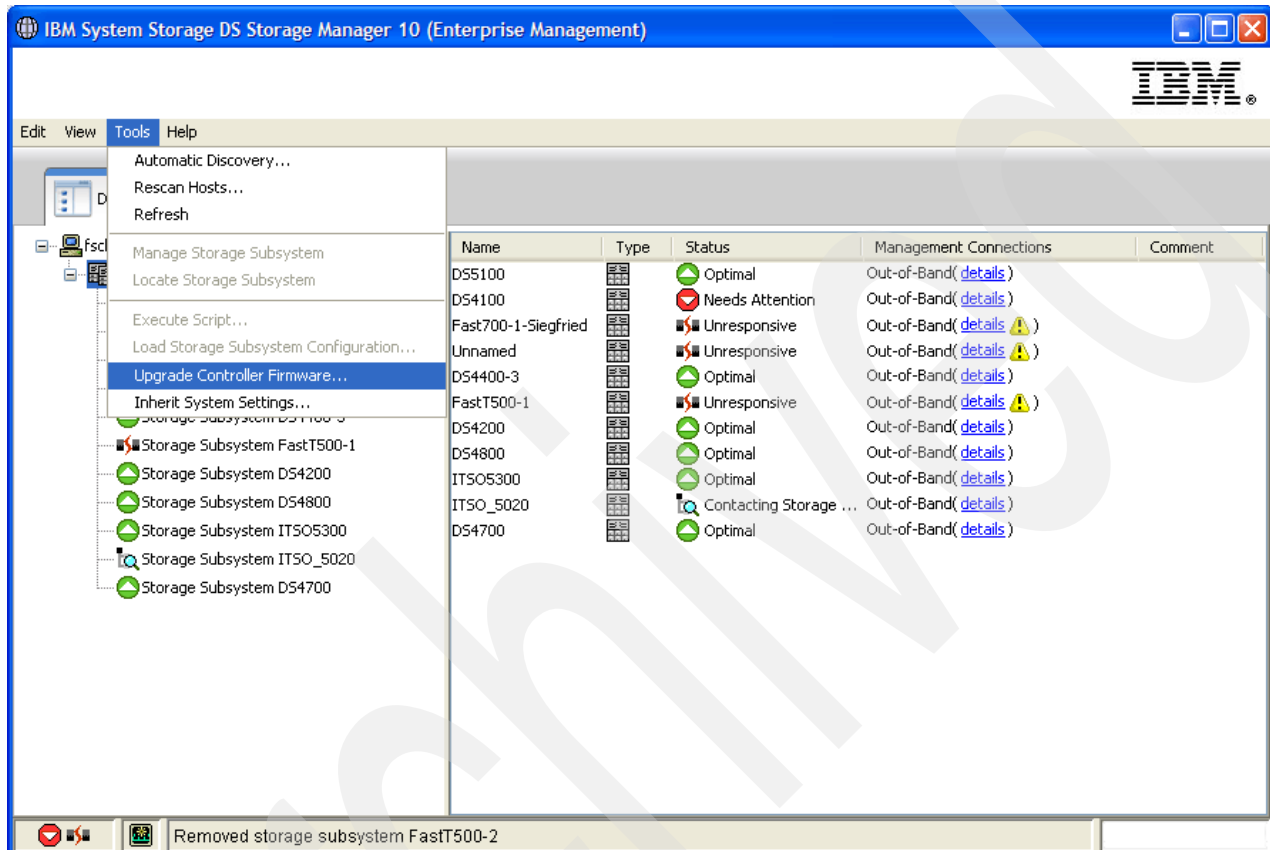
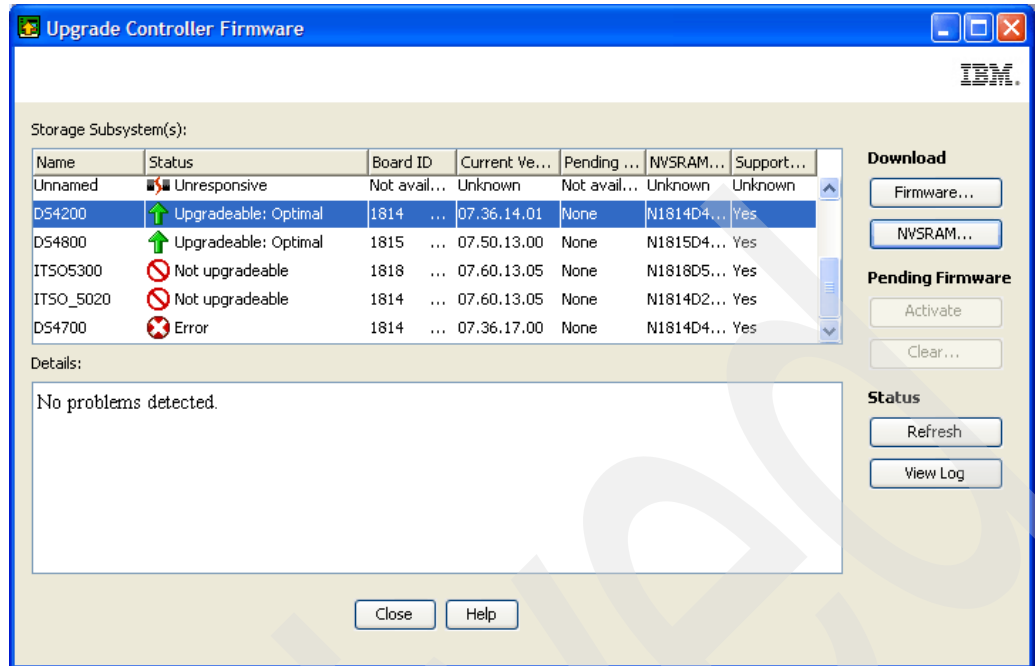

Figure 7-12 Access Controller Firmware Upgrade Tool
Figure 7-13 Upgrade Controller Firmware Tool
1. From the Enterprise Management window (EMW) menu bar, select **Tools** → **Upgrade Controller Firmware**, as shown in Figure 7-12. When the Firmware Upgrade window (Figure 7-13 on page 342) opens, any system listed in the EMW will also appear here.
The update might take up to an hour. Do not interrupt the update process within this hour. Doing so might cause data loss. If you suspect that the update process has stopped, inspect the log file (select **View Log** in the window shown in Figure 7-13 on page 342) or consult IBM Support.